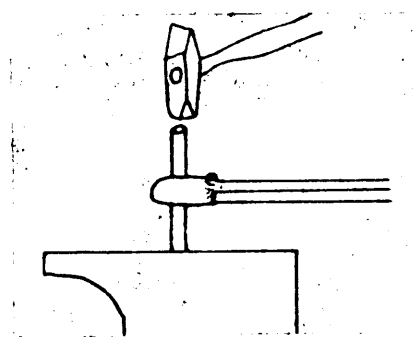

Figure 3.
4. Place the stock on the anvil in a perpendicular position, forming right angles to the face of the anvil to prevent the stock from bending. (Figure 3). Heated end up. A better job can be done when in this position.